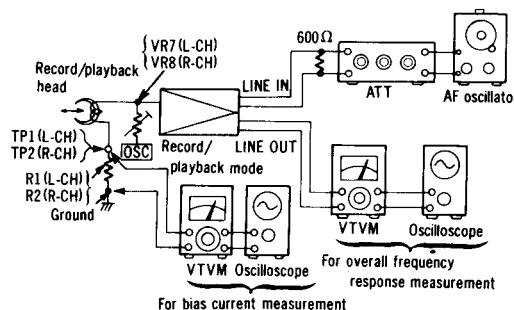

Fig. 15
1. Make connections as shown in fig. 15.